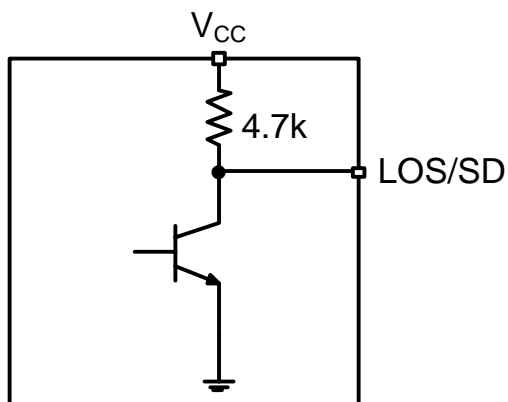

Figure 6. Receiver LOS/SD Output Structure
The post amplifier generates a selectable chatter-free loss-of-signal (LOS) or signal detect (SD) open-collector TTL output as shown in Figure 6. LOS/SD is used to determine that the input amplitude is too small to be considered as a valid input.